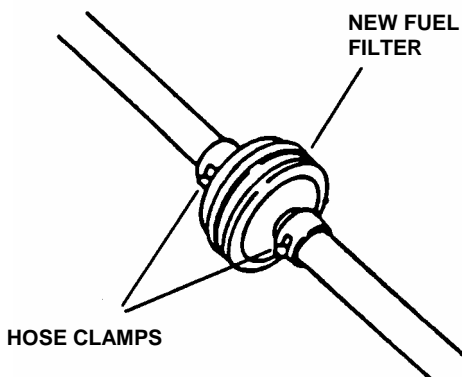

FIGURE 3.8
3. Install new fuel filter. Reinstall hose clamps. See Figure 3.8.